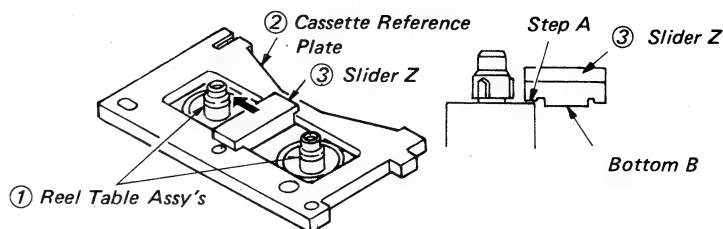

Fig. 5-28 Checking Reel Table Height.
2. Mount a cassette reference plate ② in place on the reel drive chassis as shown in Fig. 5-28.
3. Make certain that when the slider Z ③ on the cassette reference plate ② is slid right and left in the arrow (↔) direction, step A of the slider Z will not touch each reel table assembly ①, but the bottom B will catch it.